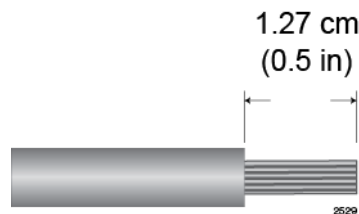

Figure 99. Stripping the Stranded Grounding Wire
1. Prepare an adequate length of stranded 10 AWG grounding wire by stripping it as shown in Figure 99.